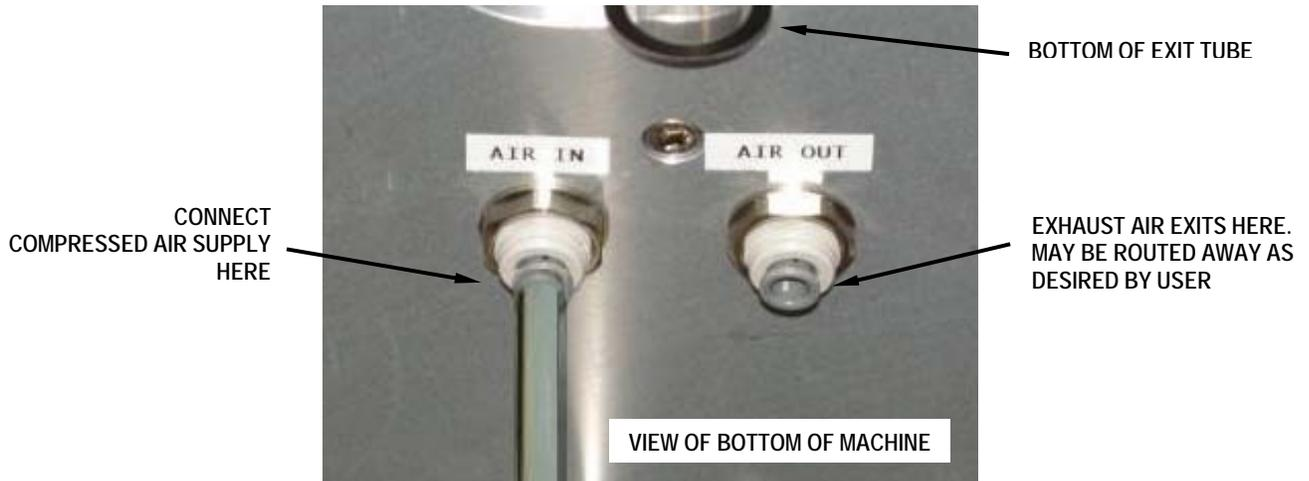

Figure 3.1
- ❑ Connect the pneumatic supply (fig. 3.1). Standard fitting is for ¼” O.D. tubing.